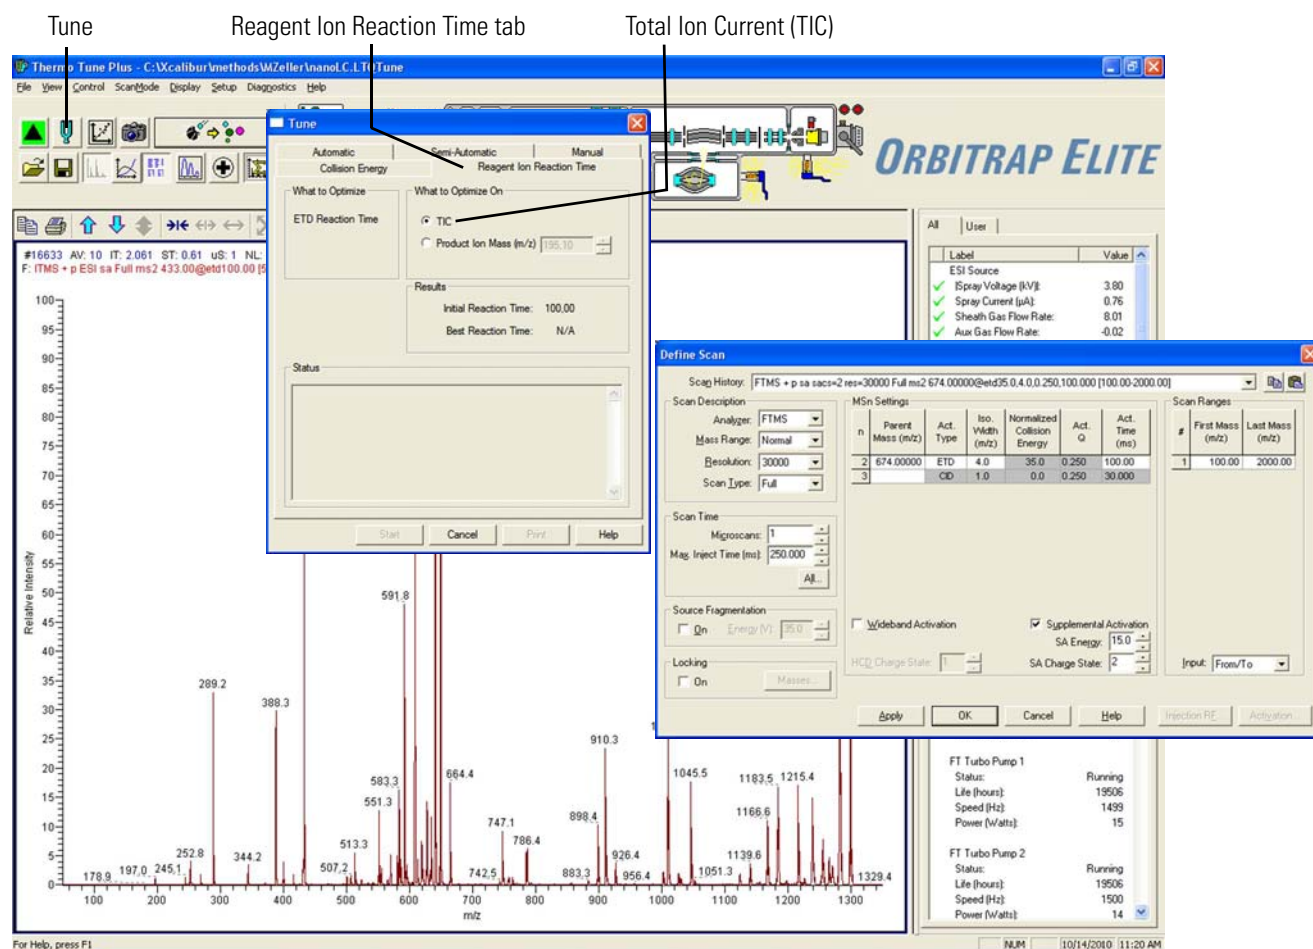

Figure 7-30. Tune and Define Scan windows open in Tune Plus
5. Click **Tune**. The Tune dialog box opens with two additional tabs displayed for tuning ETD. See Figure 7-30 on page 7-32.
6. Click the **Reagent Ion Reaction Time** tab in the Tune dialog box. See Figure 7-30.
- i. Click **TIC** in the What To Optimize On section of the Tune dialog box. (See Figure 7-30.)